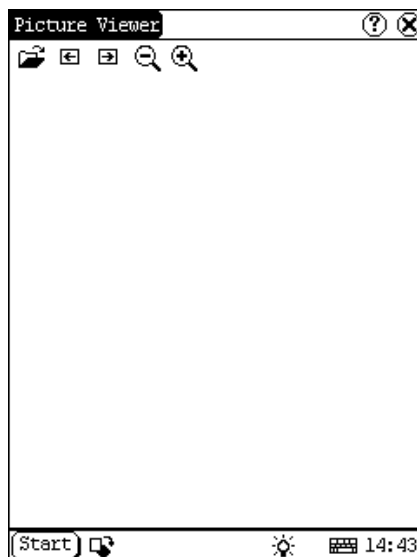

Figure 4-11
- 4) In the Picture interface, click  icon in the toolbar on the top. (See Figure 4-11)